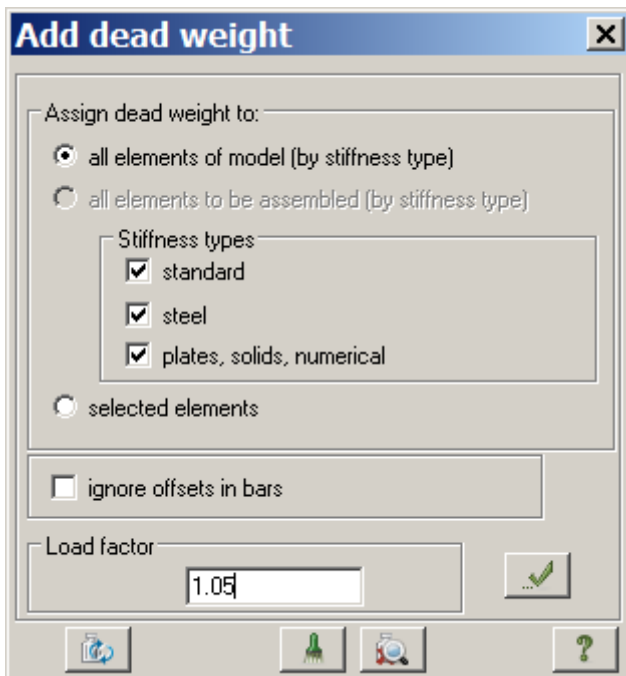

Figure 8.15 Add dead weight dialog box
- ⇒ In the **Add dead weight** dialog box (see Fig.8.15), click **All elements** and specify **Load factor** as equal to **1.05** (as in SRS-SAPR \(Steel Tables\) module the unit weight is specified as normative value, it should be converted to design value).